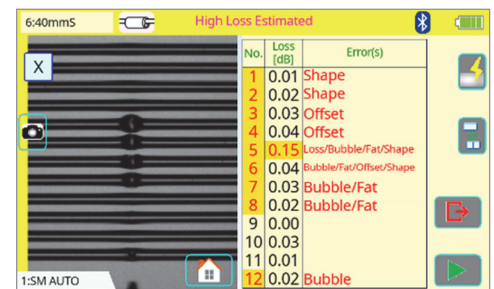

Figure 9
**High Estimated Loss** error could arise from many causes of this error, including the following (**Figure 9**):